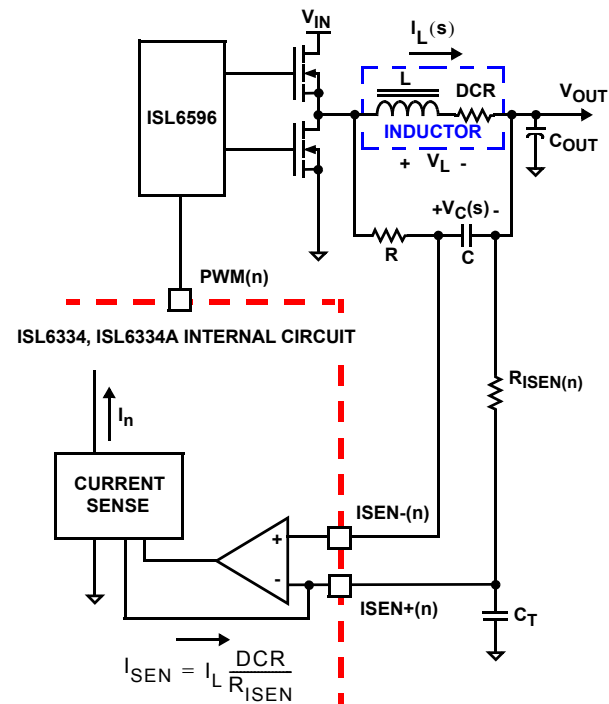

FIGURE 8. DCR SENSING CONFIGURATION
The internal circuitry, shown in Figures 8 and 9, represents one channel of an N-channel converter. This circuitry is repeated for
An inductor’s winding is characteristic of a distributed resistance, as measured by the DCR (Direct Current Resistance) parameter. Consider the inductor DCR as a separate lumped quantity, as shown in Figure 8. The channel current I_L flowing through the inductor, will also pass through the DCR. Equation 4 shows the s-domain equivalent voltage across the inductor V_L.
A simple R-C network across the inductor extracts the DCR voltage, as shown in Figure 8.
The current sense circuitry operates in a very similar manner for negative current feedback, where inductor current is flowing from the output of the regulator to the PHASE node, opposite of flow pictured in Figures 8 and 9. However, the range of proper operation with negative current sensing has a limitation. The worst-case peak-to-peak inductor ripple current should be kept less than 70% of the OCP trip point (internal mirrored current = $\sim 70\mu\text{A}$). Care should be taken to avoid operation with negative current feedback exceeding this threshold, as this may lead to momentary loss of current balance between phases and disruption of normal circuit operation. Note that the negative current can especially affect coupled inductor designs, where the effective inductance is the leakage between the two channels, much lower than the specified mutual inductance (LM). To limit the impact, a higher R_{ISEN} value (1.5x to 2x) can be used to reduce the effective negative current seen by the controller in coupled inductor designs. Refer to Intersil's application note, AN1268 for a detailed coupled inductor discussion and ripple current calculation.